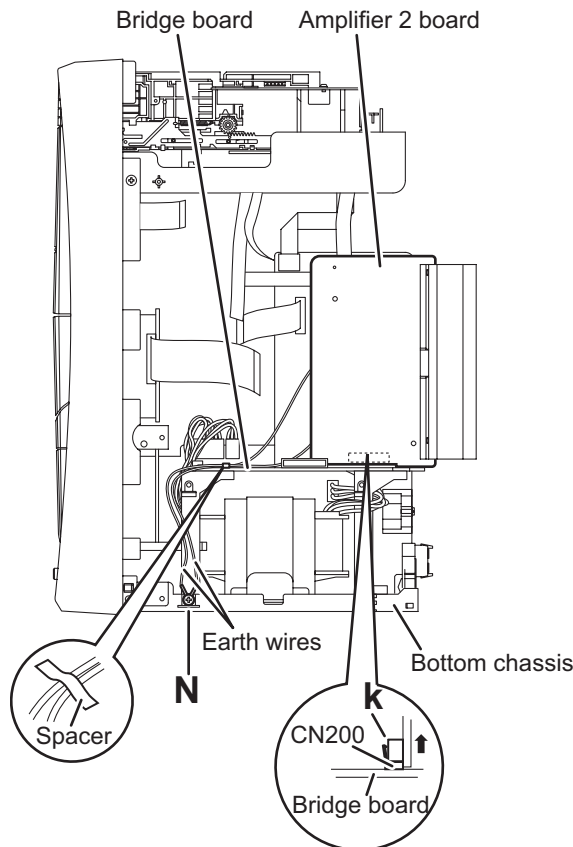

Fig.16
3.1.9 Removing the amplifier 1 and amplifier 2 boards (See Fig.16 to 18) [For DX-T99]
(1) From the right side of the main body, remove the screw **N** attaching the earth wires to the bottom chassis. (See Fig.16)
After reassembling, fix the earth wires with the spacer as before. (See Fig.16)
- (2) Disconnect the amplifier 2 board from the bridge board in the direction of the arrow while releasing the claw **k** of the connector **CN200** on the bridge board. (See Fig.16)
3.1.10 Removing the amplifier 1 and amplifier 2 boards (See Fig.16 to 18) [For DX-T77, DX-T66]
When releasing the claws (**k**, **l**), take care not to break them. (See Fig.16, 17)